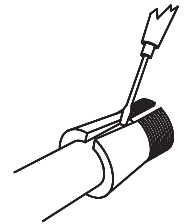

Figure 1
1. Adjust the position of the sleeve so that the tapered part comes to about the center of the bearing. The sleeve should be positioned so that the nut is easily accessible (see Fig. 1).